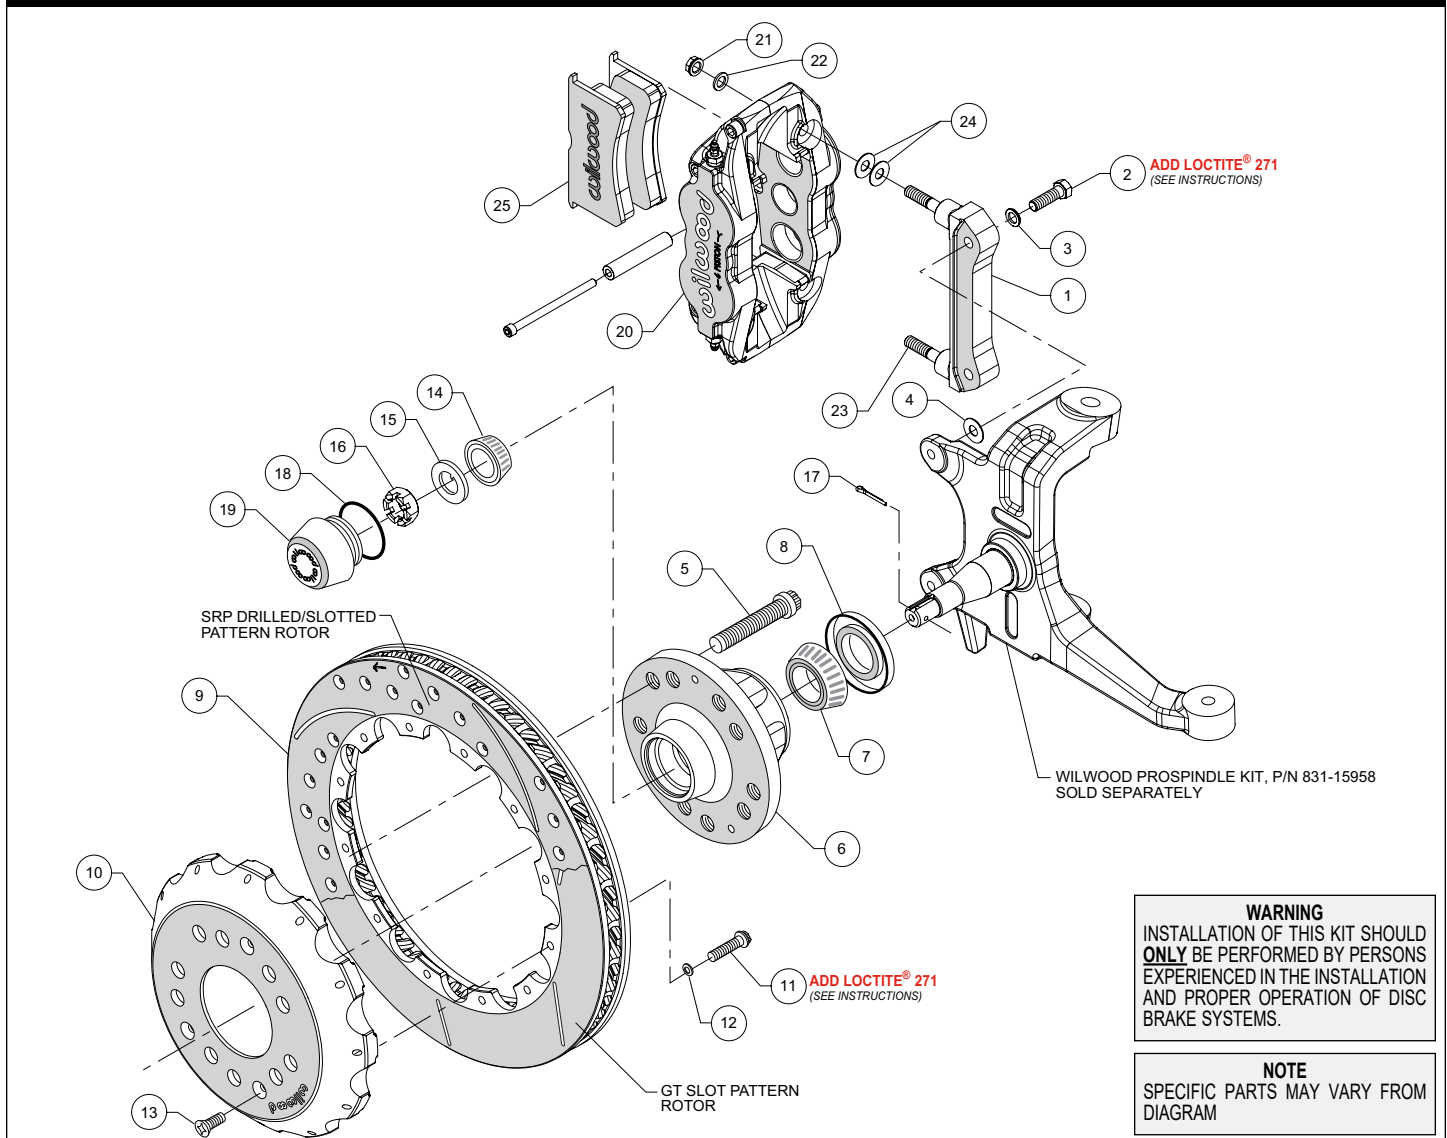
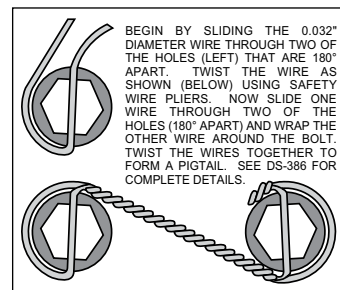

Figure 1. Typical Installation Configuration
Figure 3. Safety Wire Diagram
NOTE: Numbers in parenthesis refer to the parts list and Figure 1 on the preceding pages.
- The caliper mount bracket (1) should initially be installed with clean, dry threads on the mounting bolts. Orient the bracket as shown in Figure 1, and install using bolts (2) and washers (3). Initially place one .035" thick shim (4) on each bolt between the bracket and spindle, Figure 1 and Photo 1. Temporarily tighten the mounting bolts. **NOTE:** *The bracket must fit squarely against the mounting points on the spindle.* Inspect for interference from casting irregularities, machining ridges, burrs, etc. Later, after the caliper alignment has been checked, the mount bolts will be secured using red *Loctite*® 271.
- Screw dust cap (19) into hub (6). Friction created by the o-ring (18) on the dust cap keeps it from unscrewing. **NOTE:** The O.D. of the existing OEM spindle washer may be larger than the I.D. of the dust cap not allowing it to seat against the hub face. Therefore, use the spindle washer (15) supplied with the kit instead of the OEM washer.
- Orient the rotor (9) and the hat (10) as shown in Figure 1 and Photo 5. Attach rotor to hat using bolts (11) and washers (12). Apply red *Loctite*® 271 to the bolt threads and torque to 155 in-lb using a criss-cross pattern. For an added measure of security, the bolts may be safety wired using standard 0.032 inch diameter stainless steel safety wire as shown in Figure 3. Refer to Wilwood's data sheet DS-386 (available at www.wilwood.com/Pdf/DataSheets/ds386.pdf) for complete safety wire installation instructions.
- NOTE:** This kit contains distinct right and left hand calipers that must be mounted in a specific direction, as described below. Initially place two .035" thick shims (24) on each stud (23) between the caliper and the bracket, as shown in Figure 1 and Photo 7. Mount the caliper (20) onto the bracket (1) using lock nuts (21) and washers (22), Figure 1. Ensure that the caliper is mounted so the largest pistons are at the rotor exit end of the caliper, in relation to the direction of rotor rotation. Temporarily tighten the lock nuts and view the rotor through the top opening of the caliper. The rotor should be centered in the caliper, Photo 8. If not, adjust by adding or subtracting shims (4) between the bracket and the spindle. Always use the same amount of shims on each of the two mounting bolts. Once the caliper alignment is correct, remove the bracket mounting bolts (2) one at a time, apply red *Loctite*® 271 to the threads, and torque to 40 ft-lb.